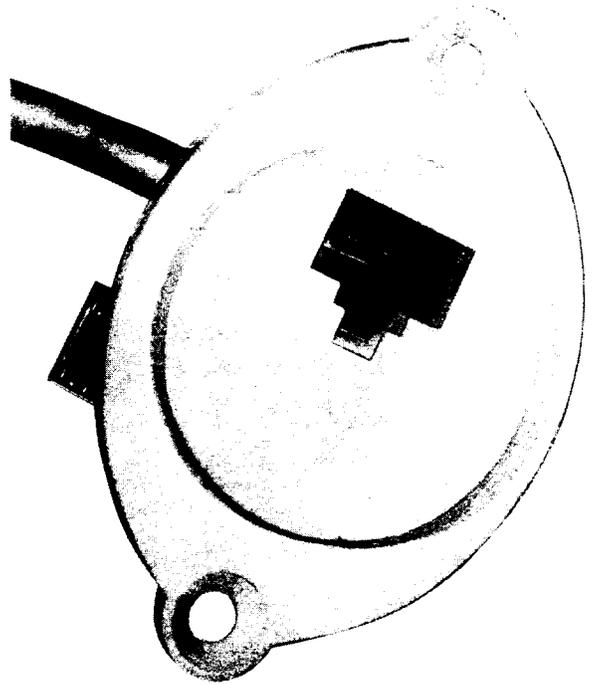

Fig. 6—102A Connecting Block
**2.05** The 102A connecting block (Fig. 6 and 7) is used to connect one modular telephone set to the line. It is available in ivory only and consists of a plastic jack frame incorporating an 8-contact spring block assembly and an 8-position quick-connect field. Two plastic wire-terminating caps are also provided (see paragraph 1.03).
**2.06** The 102A connecting block is intended to be flush-mounted into the wall surface using a 63B bracket or a KS-20502, L2 bracket with an 818839002 (P-88C900) faceplate, or using a 65A faceplate (see Section 461-630-100). For a double mounting arrangement, two 102A connecting blocks may be mounted on a 400A faceplate (paragraph 2.13). All mounting apparatus is ordered separately. Wiring of the 102A connecting block is shown in Fig. 2. Preferred mounting orientation of this connecting block is with the latch portion of the jack downward, as shown in Fig. 6.